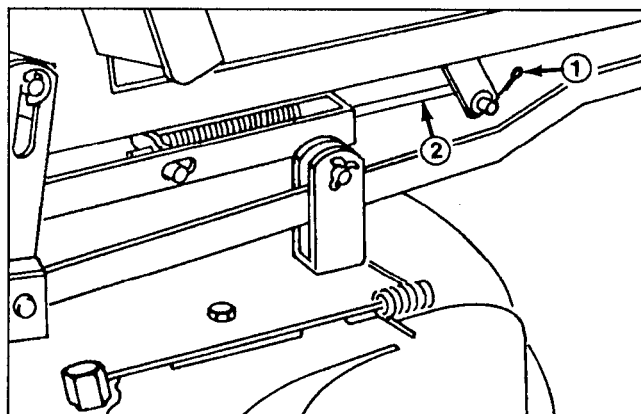

Figure 30
3. Remove cotter pin from adjustment rod and pull from pivot tube arm (Fig. 30).
2. Remove cotter pin from adjustment rod (Fig. 30).